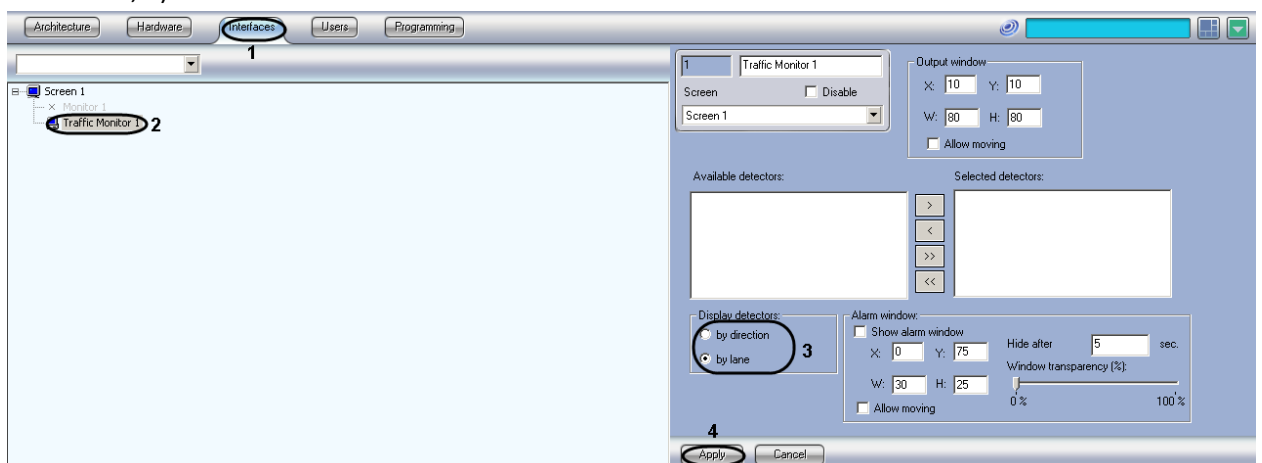

Fig. 7.7-3 Selecting the information about vehicle's direction display option
1. Open the Interfaces tab in the System Settings window (see Fig. 7.7-3, 1).
2. Select the Traffic Monitor object in the object tree (see Fig. 7.7-3, 2).
3. Select one of the radio-buttons in the Display detectors group - by direction, or by lane (see Fig. 7.7-3, 3).
4. Click Apply to save the settings (see Fig. 7.7-3, 4).